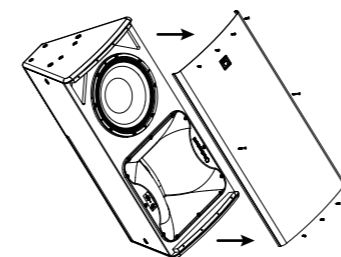

Fig. 1
2. Remove the 10 posi-drive screws that hold the grille in place and set the grille aside (fig 1).
14. Replace the grille (fig 1) and phase check the cabinet before use.